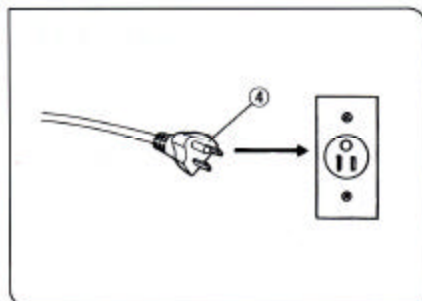

Fig. 12
2. Plug the power cord plug ④ into a wall outlet. (Fig. 12)